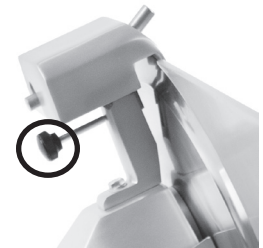

Figure 15-2
4. Tighten the sharpener release knob (Fig. 15-2).